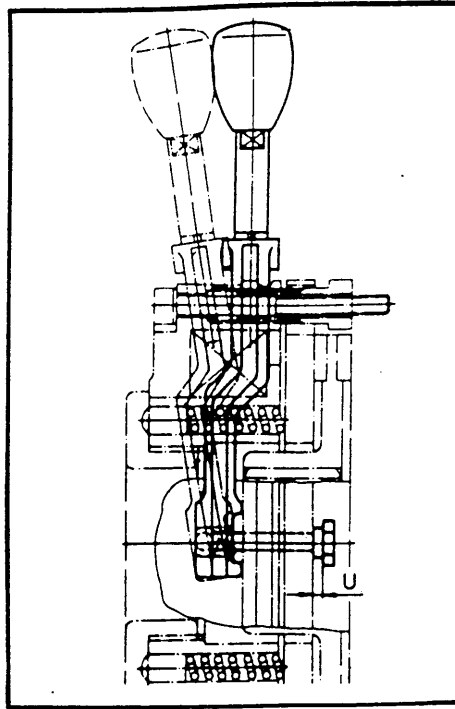

**FIGURE 2**
#### A. MANUAL RELEASE HANDLE (Position 13, Figure 2)
#### B. SEAL (Position 11, Figure 2)
#### C. MOUNTING FLANGE (Position 12, Figure 2) OR FRICTION PLATE (Position 10, Figure 2)
1. If a suitable counter braking surface for the friction rotor (6) is not available, separately screw the mounting flange to the machine. If the friction plate is used, it is fixed to the machine via the tightening screws discussed in Step 6.
2. Press the splined hub (7) onto the keyed shaft. Shaft tolerances should be a press fit. (Refer to Table 2 for specific shaft tolerances). Secure the hub axially with snap rings. Hubs with set screws are also available.
3. Slide the friction rotor (6) onto the splined hub (7). (NOTE: If the friction plate is used, slide it over the splined hub prior to installing the friction rotor.)
4. Assemble all hand release components as shown in Figure 2. Do not tighten nuts (13H) yet.
5. Place the mounting bolts (9A) and washers (9B) in the holes of the stator assembly (1).
When ordering parts refer to the exploded view in Figure 2 for the part description.